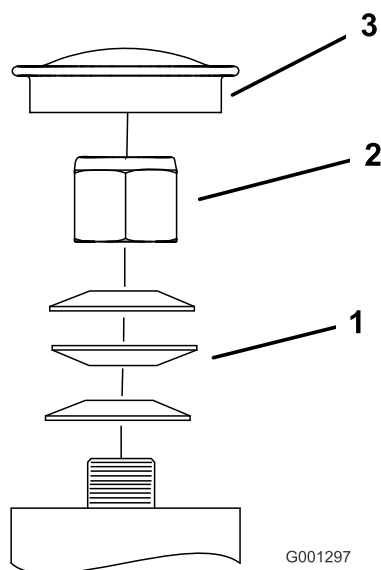

Figure 64
3. Remove the dust cap from caster and tighten the lock nut (Figure 64).
4. Tighten the locknut until the spring washers are flat, and then back off a 1/4 turn to properly set the preload on the bearings (Figure 64).
Important: Make sure that the spring washers are installed correctly as shown in Figure 64.
5. Install the dust cap (Figure 64).